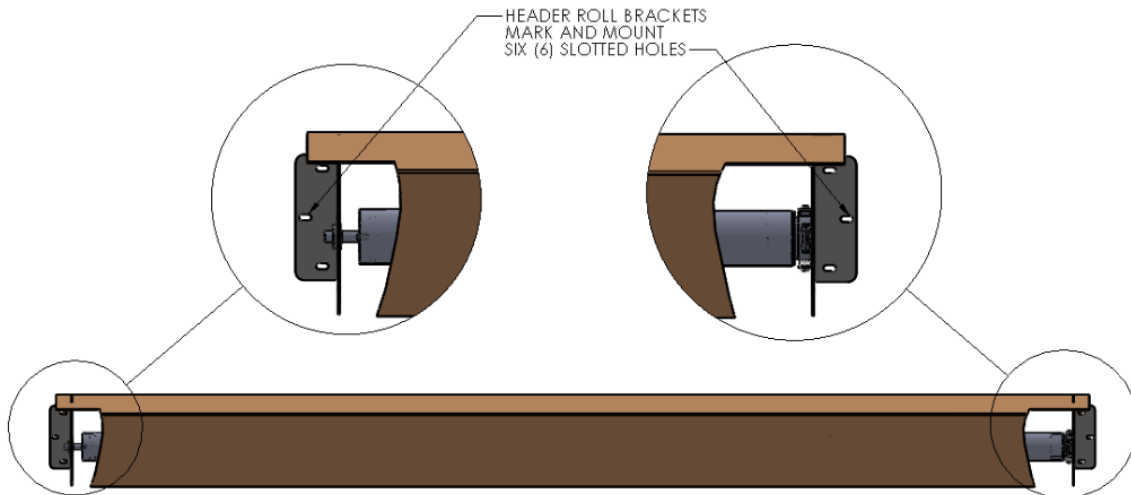

Figure 6 MOUNT HEADER ASSEMBLY TO WALL
1. Using two (2) people, and two ladders at minimum, raise the Roll Header Assembly into place on the wall, and loosely secure with three (3) sets of mounting hardware per side - screws or bolts, adequate to your building/surface material. (Figure 6 MOUNT HEADER ASSEMBLY TO WALL)